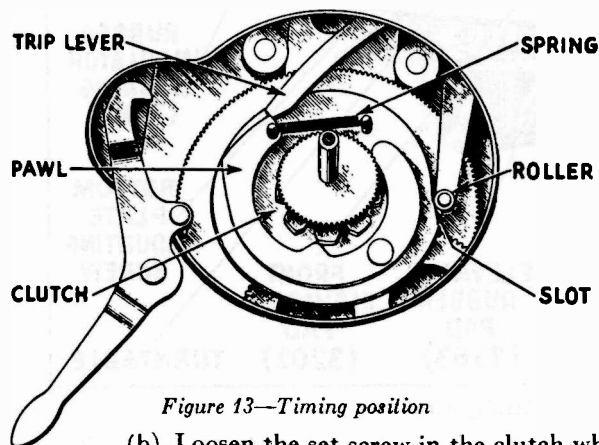
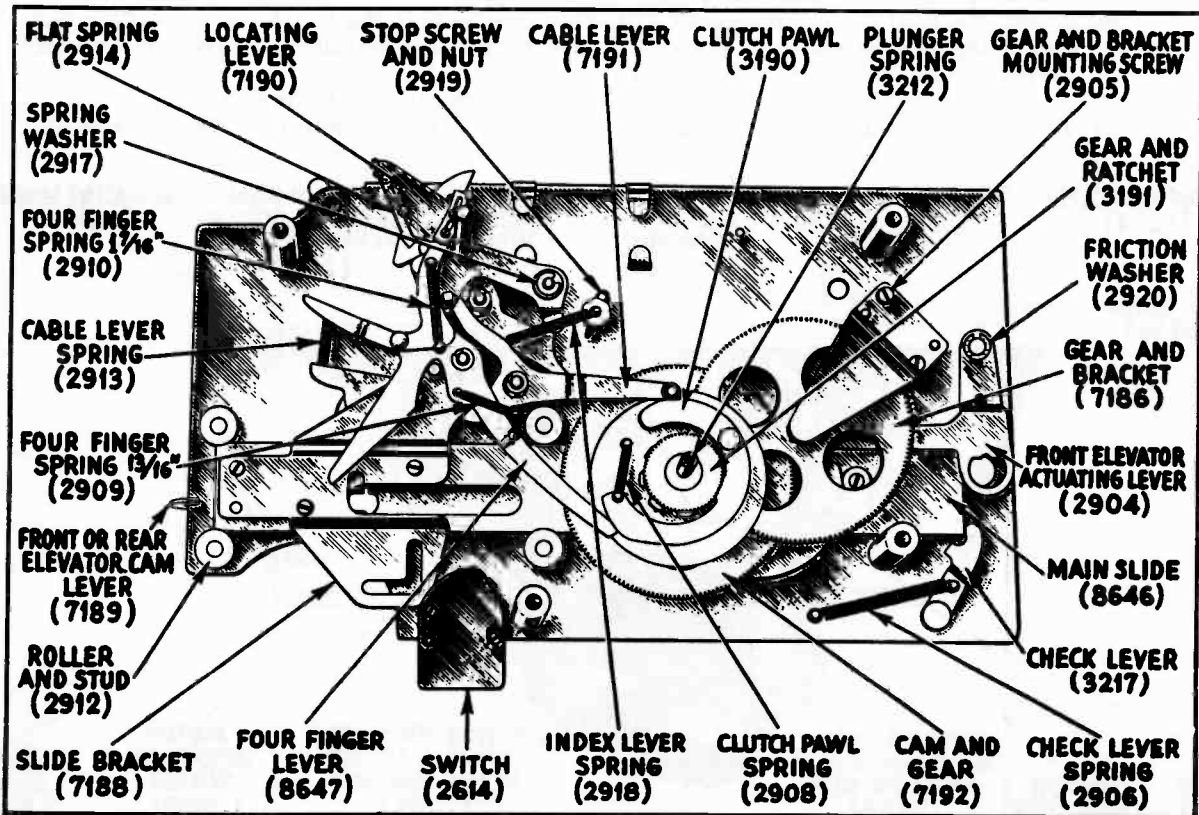

Figure 13—Timing position
Figure 17—Top view of mechanism with plate removed
- (a) Improper setting of the latch plate. Adjust the latch plate, Figure 17, by means of a small offset screw driver such as Stock No. 2930, until it makes proper contact with the latch trip when the eccentric groove is reached.
(9) INABILITY TO SET FOR MANUAL OPERATION
Failure of the mechanism to stop after the "off" button has been pressed, and the mechanism has completed its cycle is caused by improper setting of the secondary stop switch. See Figure 17. The switch body should be so mounted that the contacts will open $\frac{1}{32}$ " when the cycle is completed, but will close as soon as the mechanism has tripped.
- (a) Weak spring on pawl carrier. Remove the pawl spring Figure 17, and increase its tension by removing two or three coils.
- (a) Allow the mechanism to operate until the slide Figure 17 is in its extreme forwarding position. When this setting is reached the straight side of the cam, Figure 17, will be parallel with the side of the slide. Check the position of the trip lever and roller at this time to see that they are approximately as shown in Figure 13. If the various parts are not in their proper relation, the mechanism should be retimed.
- (d) Lower the pawl carrier into mesh with the gears so that the trip lever is touching the end of the pawl as shown in Figure 13, when the cable lever roller is engaged in the slot on the side of the pawl carrier as shown.